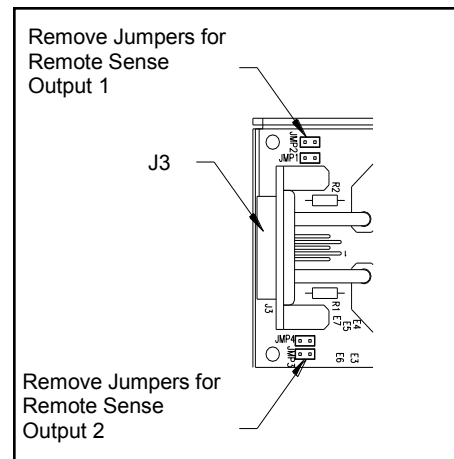

Figure 5. Dual (Mini Module) Remote Sense Jumpers
- ◆ If Remote Sense is desired, remove jumpers on JMP1 and JMP2 for output #1 (lower connector) and jumpers on JMP3 and JMP4 for output #2 (upper connector). (See Fig. 5)